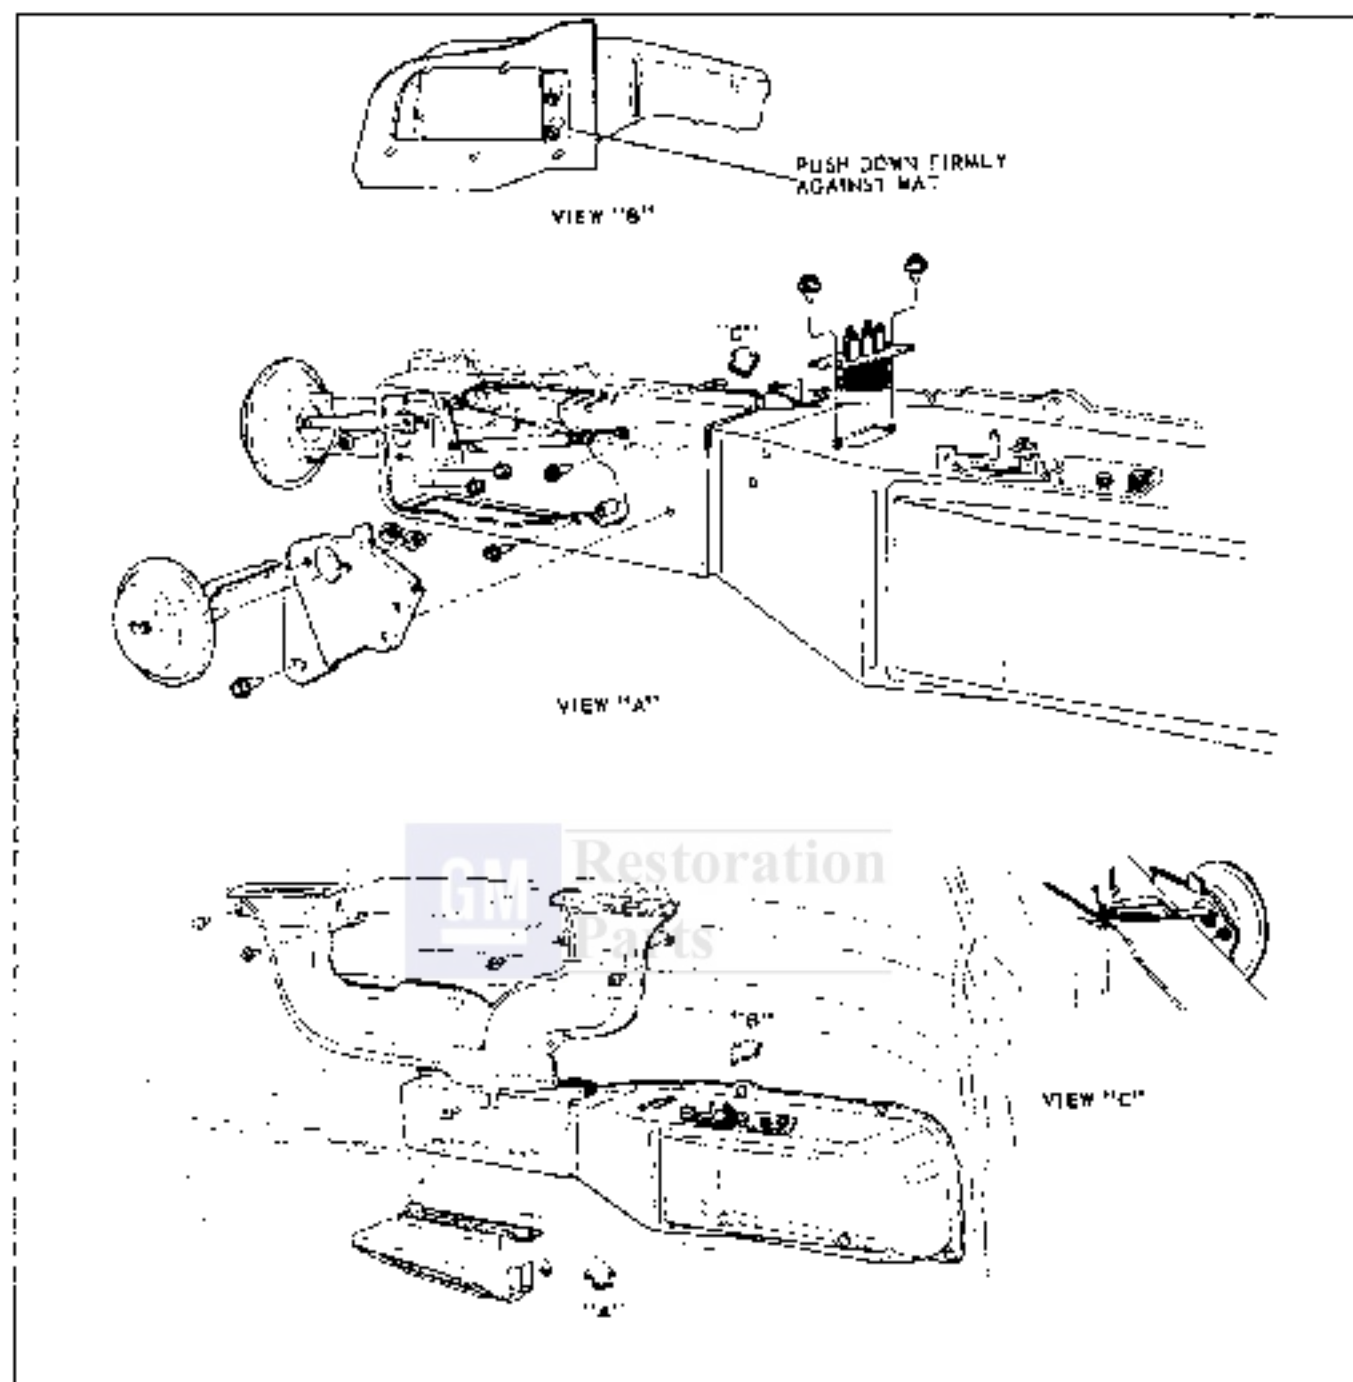

Fig. 1-6 Control Dependent Fender
1. Remove blue vacuum supply hose from diaphragm (Fig. 1-6).
1. Remove green supply hose (Fig. 1-6).